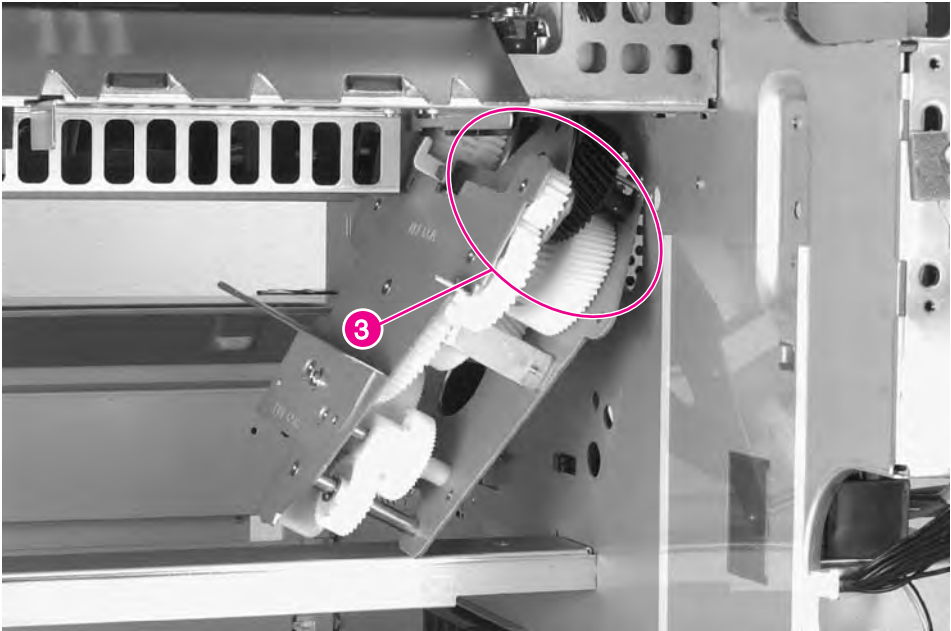

Figure 6-38 Main Gear Assembly (3 of 3)
- 2 Tilt the top of the assembly inward and insert the upper back part of the assembly in place (figure 6-38, callout 3).